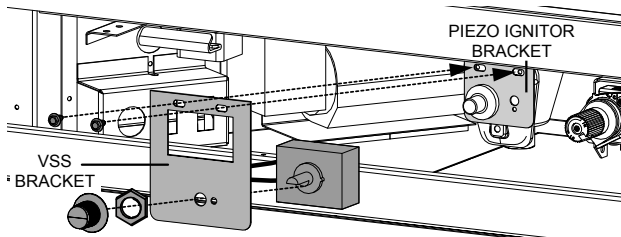

**Fig. 1**
6. Pivot the blower into the bottom of the appliance, ensuring the gasket remains in place between the blower and outer shell while sliding the blower against the left side of the outer shell into the blower mounting tab. Secure in place using one screw (**Fig. 1 and 2**).